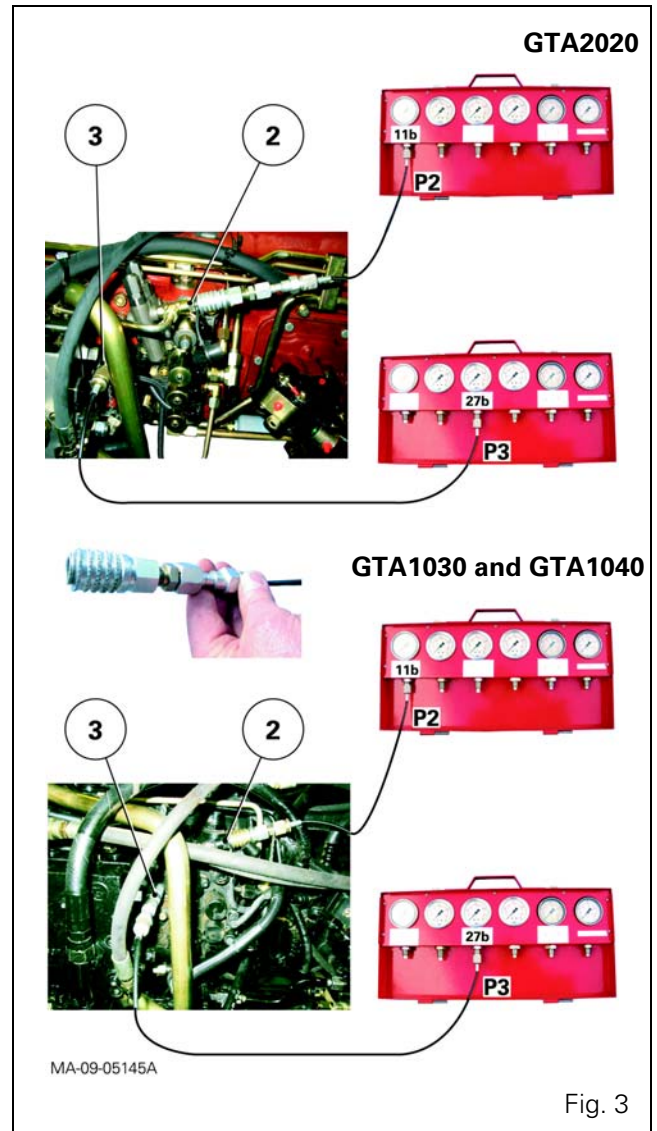
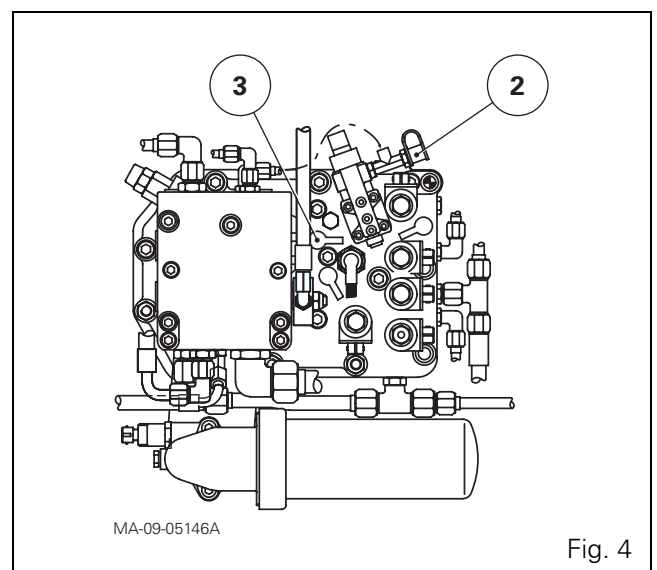

Fig. 3
Fig. 4
- Connect a pressure gauge of approximately 11 bar capacity to the connector (2), then a second pressure gauge of approximately 30 bar capacity to the connector (3) (Fig. 3 and Fig. 4).